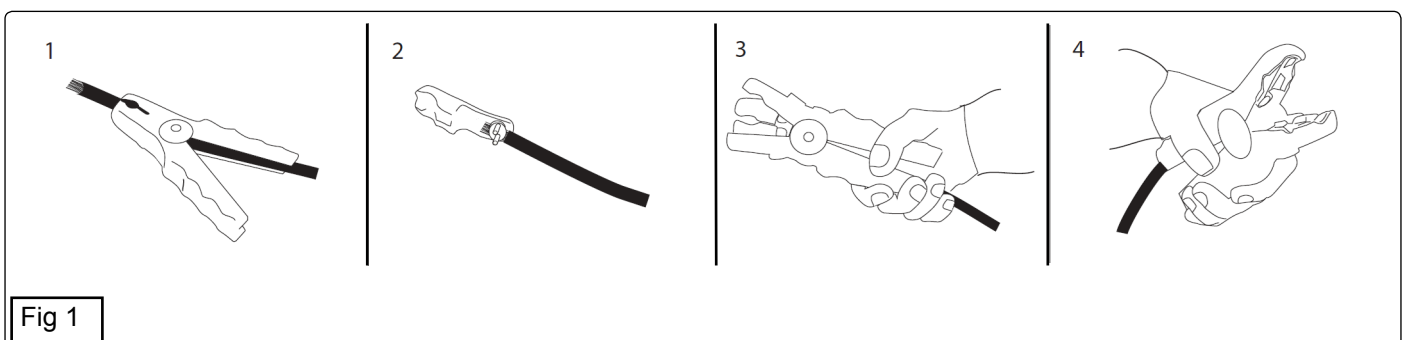

Fig 1
- 4.3. The clamp with the red handle is attached to the movable cable. fig.1.
- 4.4. The clamp with the black handle is attached to the fixed cable which comes directly out of the top of the battery charger. fig.1.